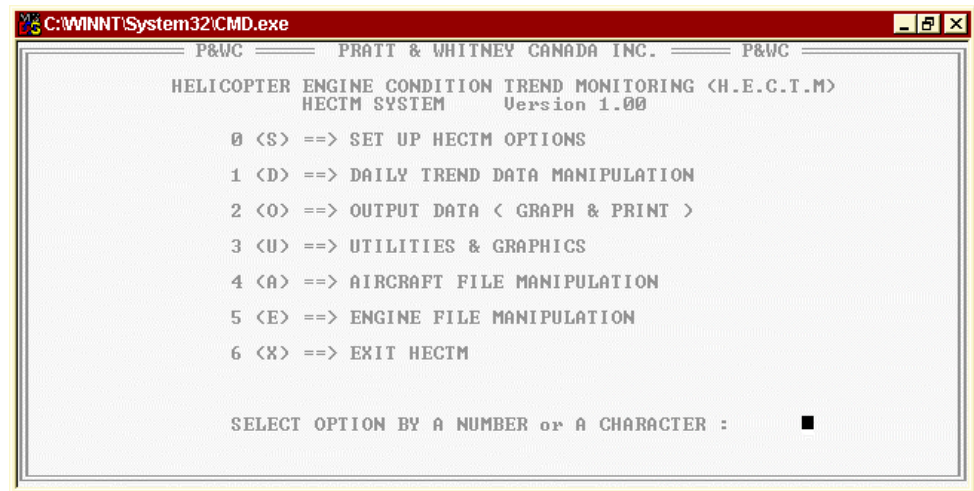

Figure 58. HECTM Application Main Menu Screen
7. Press OK. The HECTM™ Menu screen will reappear (refer to Figure 58).